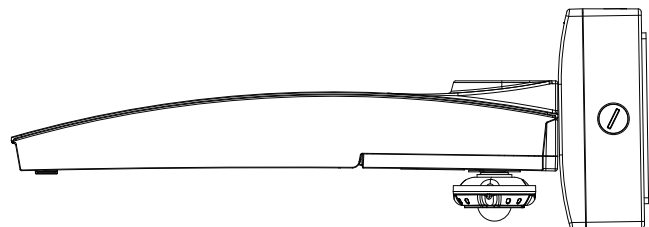

FIG. 4
4. Rotate the outer ring until the arrows align. (See Fig. 4)